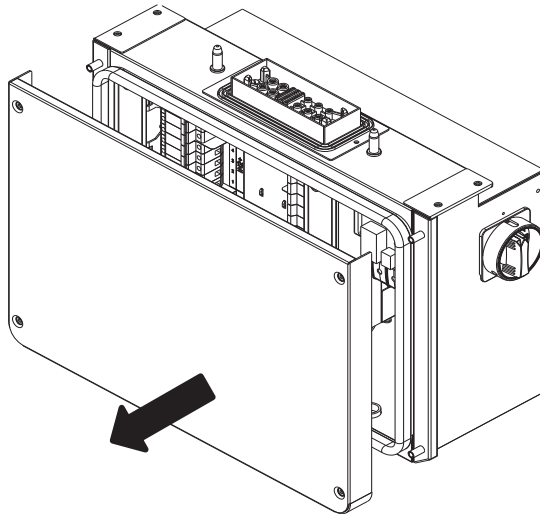

Figure 2.16 – Removing the Wiring Box Cover
(1) Use a #3 Phillips screwdriver to remove the 4 screws on the wiring box and pull cover straight off the box. Do not twist or slide the cover while removing. (see Figure 2.16)